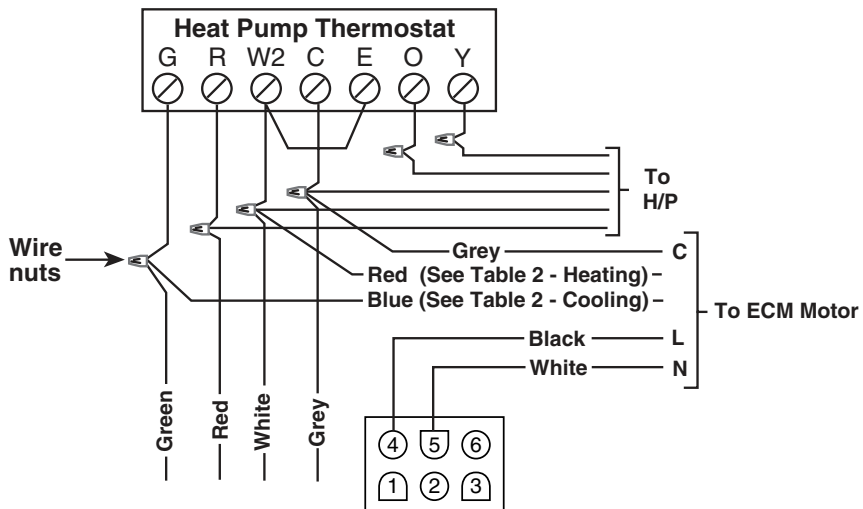

Figure 9. E3 & E4 Thermostat Connections
7. Make the required thermostat wiring connections as shown in Figure 9 (page 6).